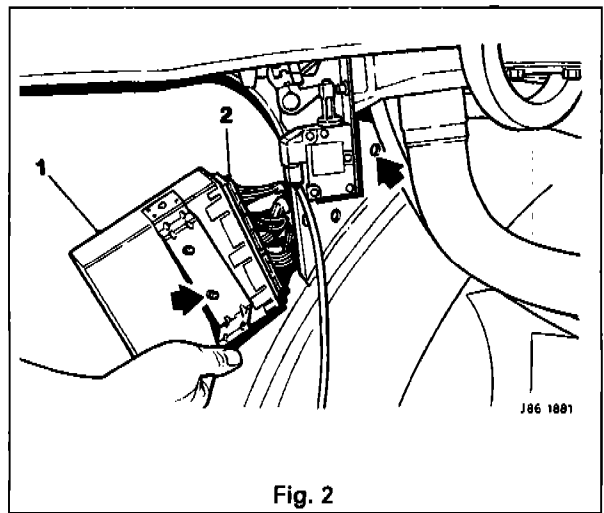

Fig. 2
- Undo and remove the inclination sensor securing nuts (2 Fig. 1) and displace the sensor (3 Fig. 1) to gain access to the SLCM (1 Fig. 2).
- Displace the SLCM. Identify the SLCM multi-plugs (2 Fig. 2) for subsequent reconnection. Disconnect the multi-plugs and remove the SLCM.
Note: The arrows on Fig. 2 show the position of the mounting bolts and mounting holes.